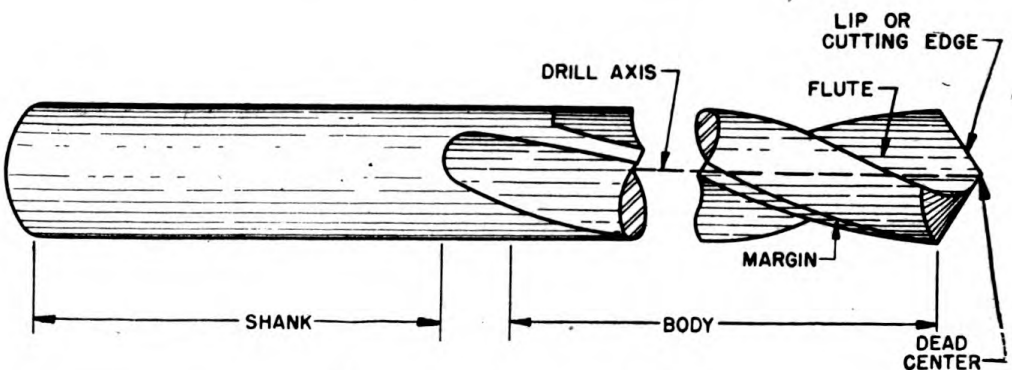

Figure 123. Parts of a drill.
*e. DRILLS AND DRILLING.* (1) When making installations to comply with changes in Technical Orders and when patching the airplane skin, the airplane mechanic needs to be able to use and sharpen twist drills properly. A drill is in figure 123. The lips are the parts which actually do the cutting. The flutes allow the chips to escape and give the correct rake to the cutting lips. The body of the drill is ground away slightly except at the margin to reduce the friction of the drill as it rotates.
(2) When laying out work to be drilled, a small prick-punch mark